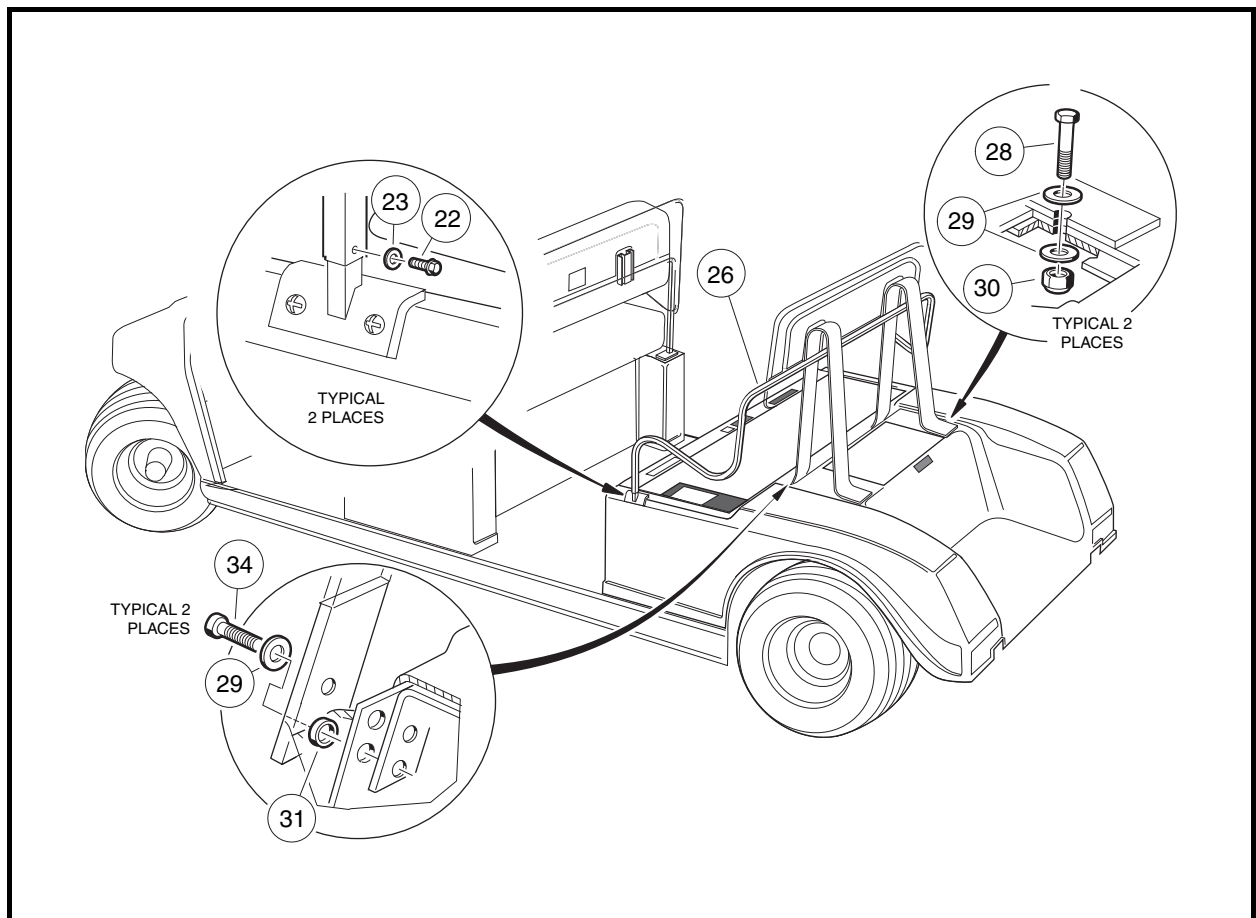

Figure 4-12 Rear Body – Villager 6 and 8
- 15.1. Remove screws (22) and washers (23) from each side of the hip restraint/setback assembly (26) **(Figure 4-12, Page 4-11)**.
- 1.3. Tighten the two bolts (26 or 28), washers (25 or 29) and nuts (24 or 30) attaching the rear legs of the seat back support assembly to the body to 11 ft-lb (14.9 N·m) **(Figure 4-11, Page 4-10 or Figure 4-12, Page 4-11)**.
- 1.4. Tighten four bolts (28 or 34), flat washers (25 or 29), and spacers (27 or 31) attaching the front legs of the seat back support assembly to the body to 20 in-lb (2.3 N·m) (**Figure 4-11, Page 4-10 or Figure 4-12, Page 4-11**).
- 1.9. Tighten the hip restraint mounting screws (22) to 9 ft-lb (12.2 N·m) (**Figure 4-12, Page 4-11**).